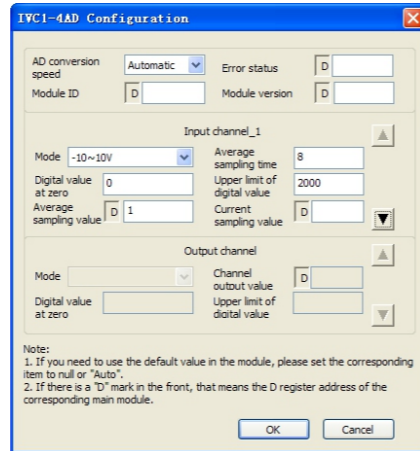

Figure 4-2 CH1 setting interface
IVC1L-4AD exchanges data with the basic module through Buffer Memory (BFM). After IVC1L-4AD is set through the host software, the basic module will write data into IVC1L-4AD BFM to set the state of IVC1L-4AD, and display the data from IVC1L-4AD on the host software interface. See Figure 4-2-Figure 4-6.
8. BFM#4094: module software version, displayed automatically as **Module Version in IVC1L-4AD Configuration** dialogue box of the host software, as shown in Figure 4-2.